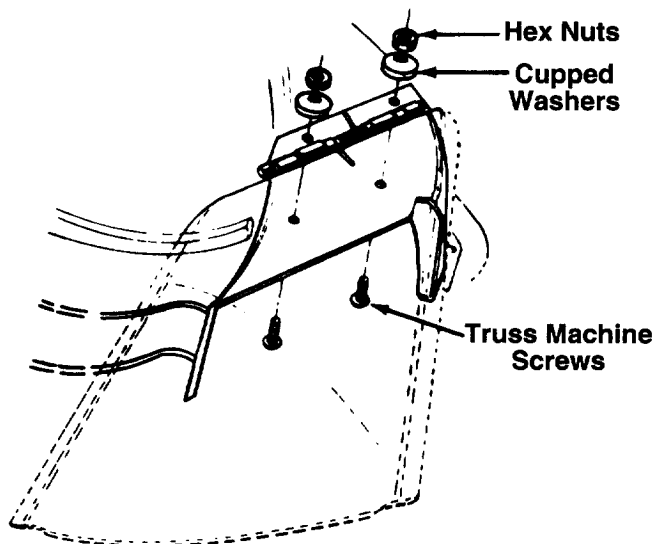

FIGURE 3.
3. Place the chute deflector in position as shown in figure 3. Secure with hardware just removed. Cupped sides of washers go against the chute ←